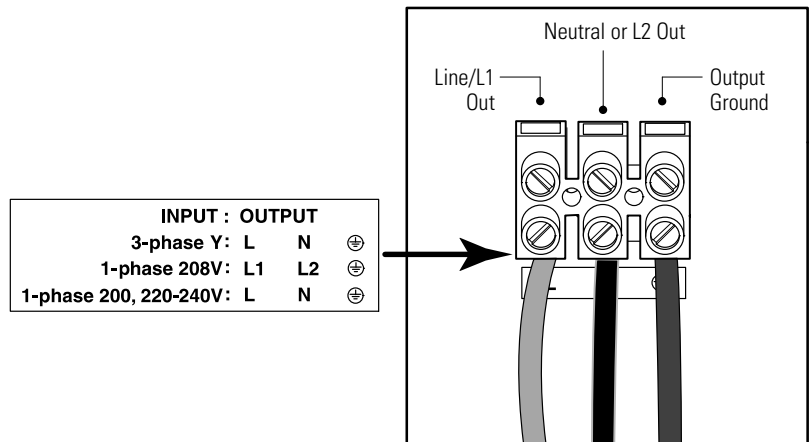

Figure 34. UPS Output Terminal Block
11. Connect the output and ground wires to the output terminal block according to Figure 34 and Table 3.